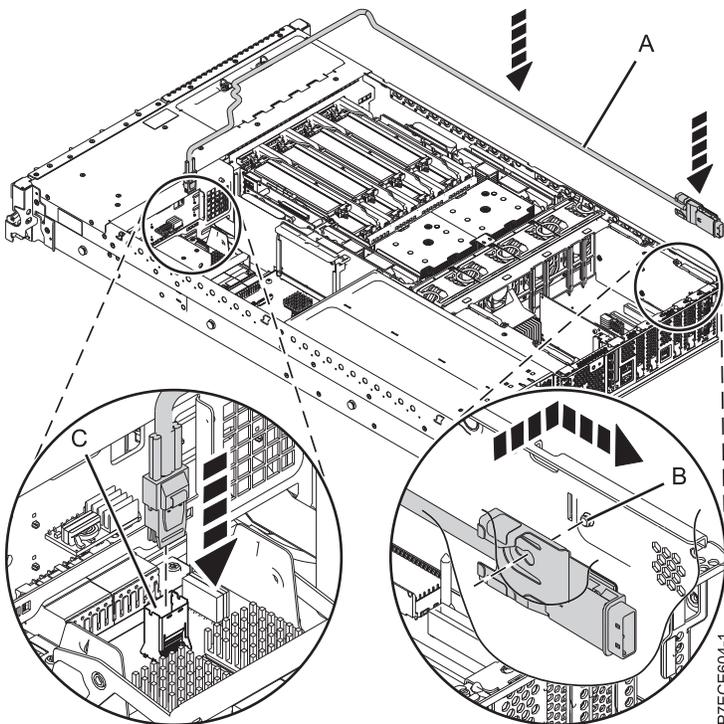

Figure 37. Installing the SAS cable
8. Connect the SAS shroud of the SAS cable to the external SAS connection port (C) at the rear of the system backplane until it snaps in place, see Figure 37.
9. Lay the cable (A) beside the side wall and slide it towards the SAS connection port on the disk drive backplane.
10. Push the SAS shroud (B) into the SAS connection port on the disk drive backplane until it snaps in place.